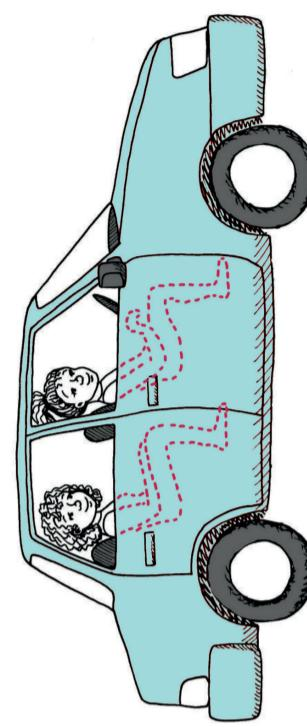

Figure 5
- Copy Figure 5 and use dashed lines to show the bodies of the two people inside the car.